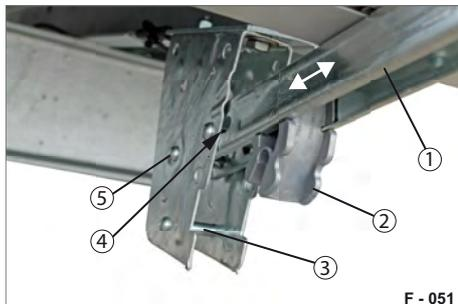
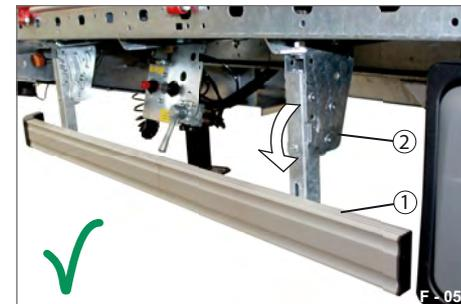

Fig. 67 Unlocking
Fig. 69 Folded down + secured
- ▶ Pull the side guard (Fig. 67/1) out of the retaining brackets (Fig. 69/2).
- ▶ Pull the side guard towards you in the elongated hole (Fig. 67/4).
- ▶ Position the side guard (Fig. 67/1) so that the open elongated hole can slide over the retaining bolt (Fig. 67/5).
The side guard (Fig. 67/1) is secured before folding down.
- ▶ Pull the side guard towards yourself in the elongated hole so that it protrudes over the retaining brackets (Fig. 67/5).
- ▶ Press the side guard down with some force evenly into all retaining brackets (Fig. 69/2).
The clamping parts (plastic) lock on the lower bolts (Fig. 67/3).
The side guard (Fig. 69/1) is folded down and secured - drive position.